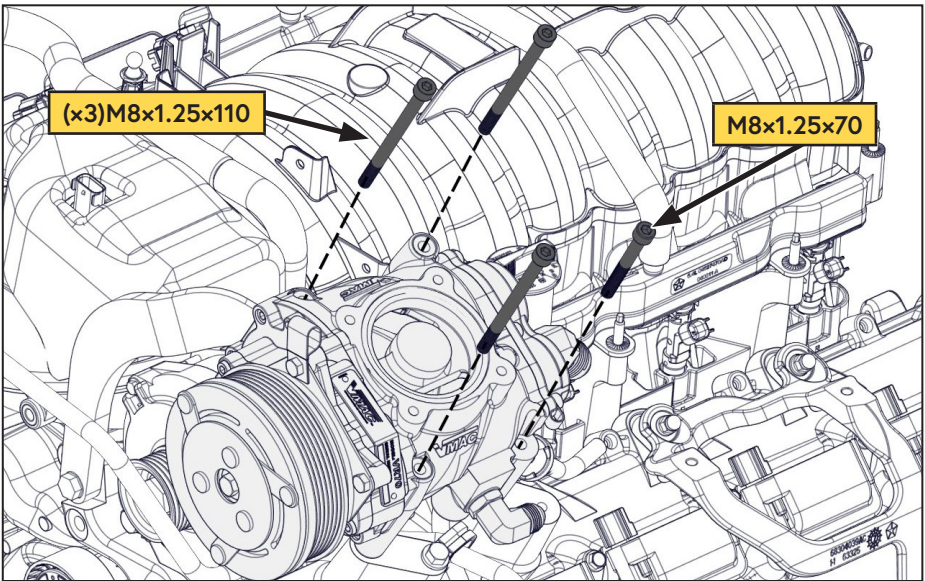

Figure 32 — Mount compressor
- ☐ Using the (x3) M8x1.25x110, and (x1) M8x1.25x70 fasteners, mount the compressor to the main bracket (Figure 32).